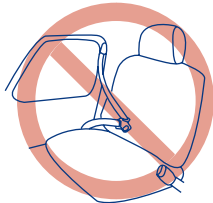

Fig. 16-3
- **DO NOT** use a seat belt that is connected to the door in any way. These types of seat belts are designed to automatically surround the occupant when the door is closed. This type of seat belt will NOT adequately restrain the Safety Seat. (Fig. 16-3).